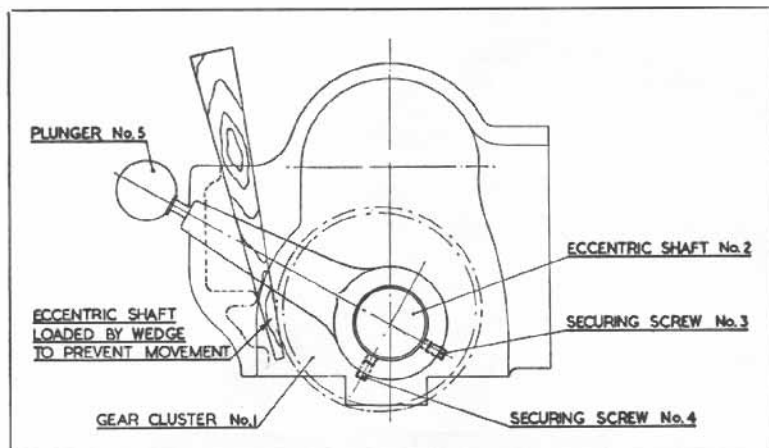

Fig. 33. Showing reduction gear adjustment.
Release the headstock pulley coupling and engage the reduction gear cluster. Place a wedge between the reduction gear cluster (1) and the inside of the headstock casting, as shown in Fig. 33. This will load the eccentric shaft (2) and so prevent movement.